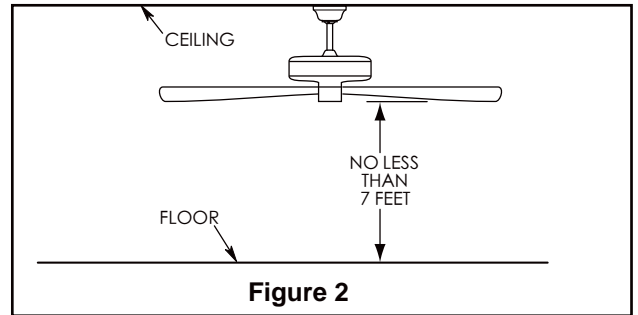

Figure 2
Deep box (Figure 2)
2. Remove the hairpin clip and clevis pin from the bottom of downrod. Retain the pin and clip for reinstallation in Step 5. (Figure 2)
The fan must be hung with at least 7' of clearance from floor to blades. (Figure 2)
To avoid possible electrical shock, be sure electricity is turned off at the main fuse box before wiring (Figure 2).